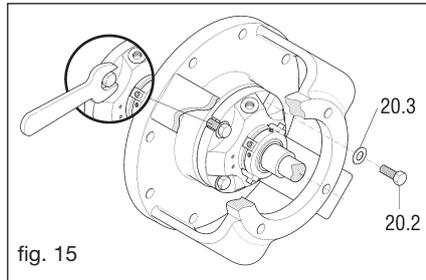
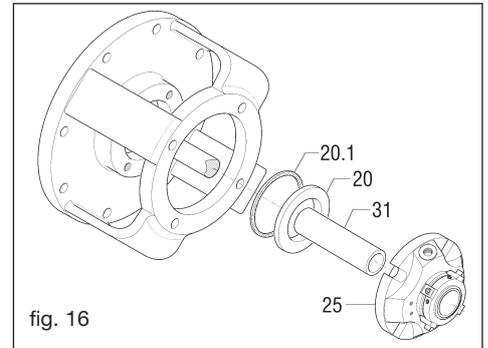

fig. 15
fig. 16
- Unscrew the screws (20.2) which fix the seal flange to the head (fig.15)
- Remove the head (19)
- Remove the seal (25), the shaft sleeve (31), the seal box (20) and the gasket (20.1)
- To facilitate the initial assembly of the seal (fig. 16), smear a little oil on the shaft sleeve (31)
- Tighten the fixing screws (20.2) carefully (fig. 15) so as to avoid strain on the stationary seat of the seal